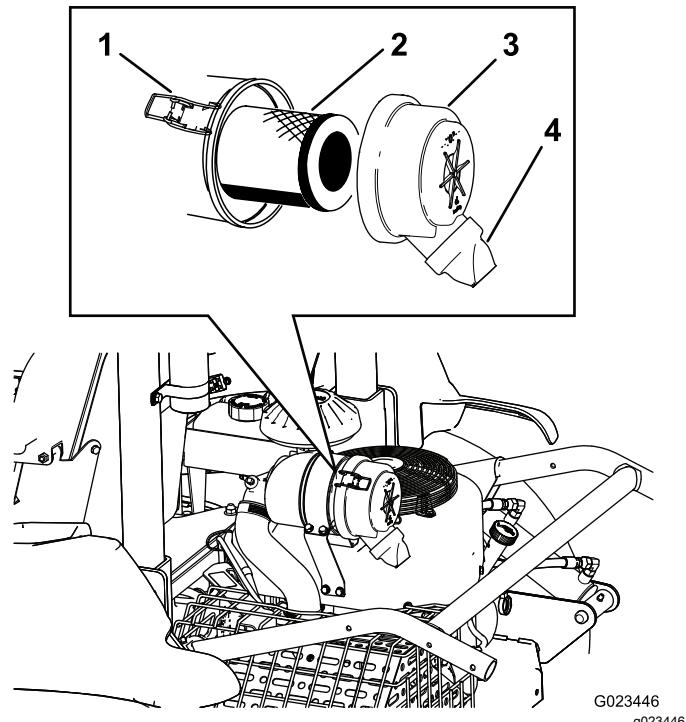

Figure 42
2. Release the latches securing the air-cleaner cover to the air-cleaner body (Figure 42).